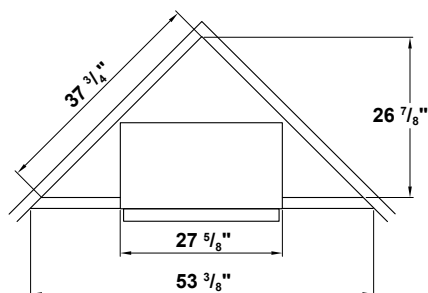

Figure 9 - Rough Opening for Corner Installation
1. Frame in rough opening. Use dimensions shown in Figure 7 for the rough opening. If installing in a corner, use dimensions shown in Figure 9, for the rough opening. The height is 23 1/4", which is the same as the wall opening above.